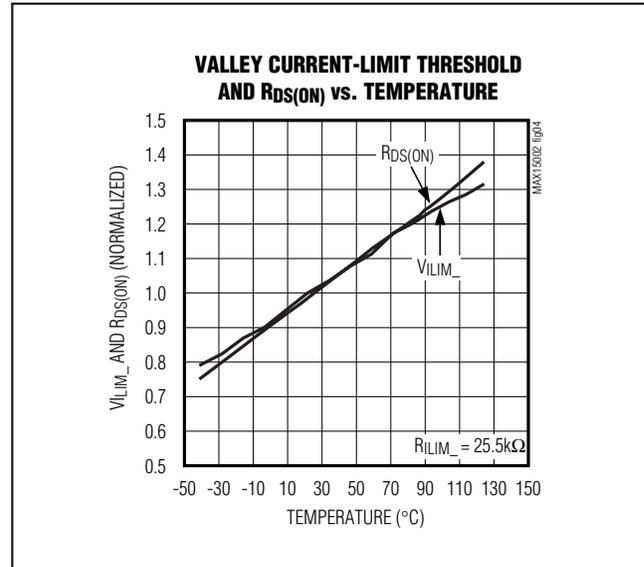

Figure 4. Current-Limit Trip Point and VRDS(ON) vs. Temperature
Figure 4 illustrates the effect of the MAX15002 ILIM reference current temperature coefficient to compensate for the variation of the MOSFET RDS(ON) over the operating junction temperature range.